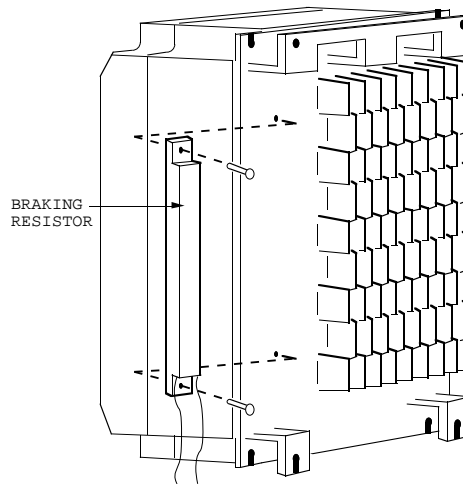

Figure A7-1. Mounting Braking Resistor on Heat Sink
2. Mount the Braking Resistor on the back of the drive's heat sink (see Figure A7-1).